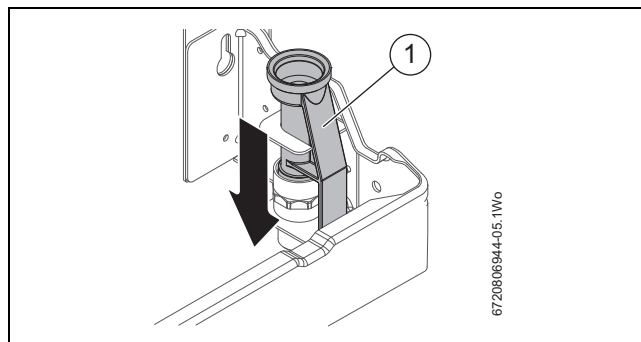

Fig. 27 PRV connection in the down position
**NOTICE:** Before hanging the appliance onto the wall mounting frame ensure that the pressure relief valve connection is in the DOWN position refer to figure 27.